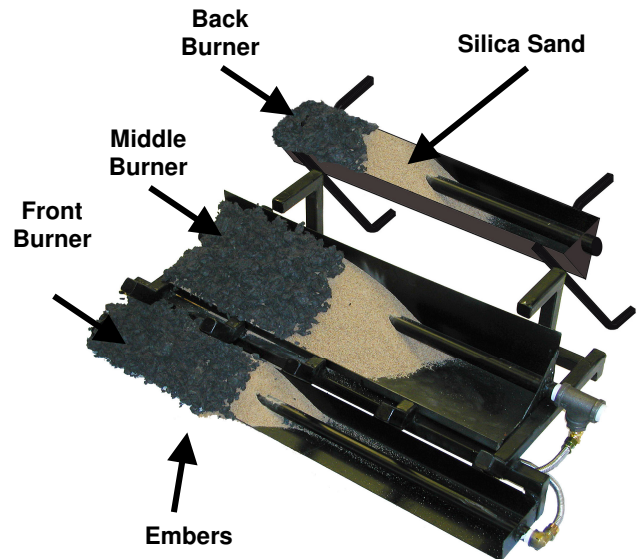

Figure 3
3. **Embers** (rockwool) are placed over the sand to simulate glowing embers. For best results pinch off pieces of the Part B material the size of a dime and feather it out. Place as much as desired over the area the gas comes through. Burner should be completely full and level. (**See Figure 3**)